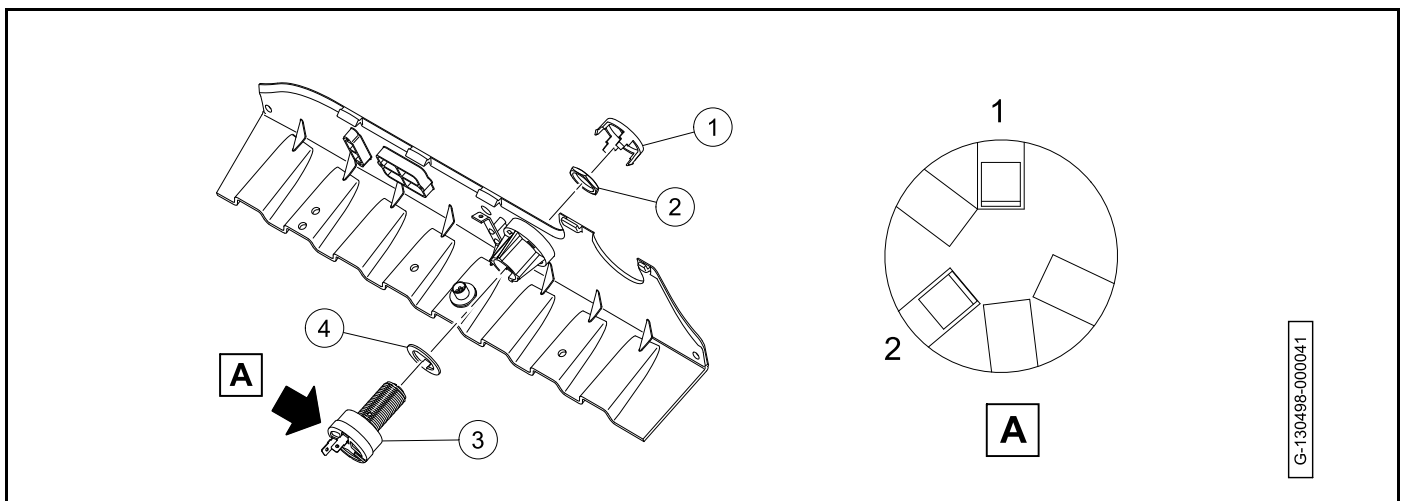

Figure 13-13
6. Push on the retaining tabs and remove the key switch cap (1) (**Figure 13-13, Page 13-15**).
1. Install the washer (4) onto the key switch (3) (**Figure 13-13, Page 13-15**).
3. Install the retaining nut (2). Tighten the retaining nut to 40 lb·in (4.5 N·m).
4. Install the key switch cap (1). Make sure that the retaining tabs engage.